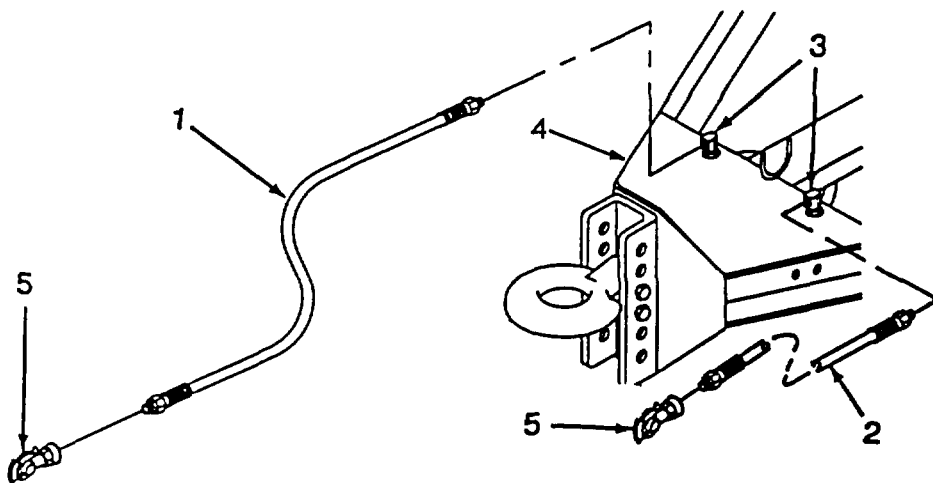

Figure 4-49. Air Hose Assemblies and Gladhand Couplers
a. Removal. (Refer to Figure 4-49).
- (1) Unscrew service brake (2) and emergency brake (1) hose assemblies from fittings (3) on trailer frame (4)
- (2) Unscrew gladhands (5) from service brake (2) and emergency brake (1) hose assemblies